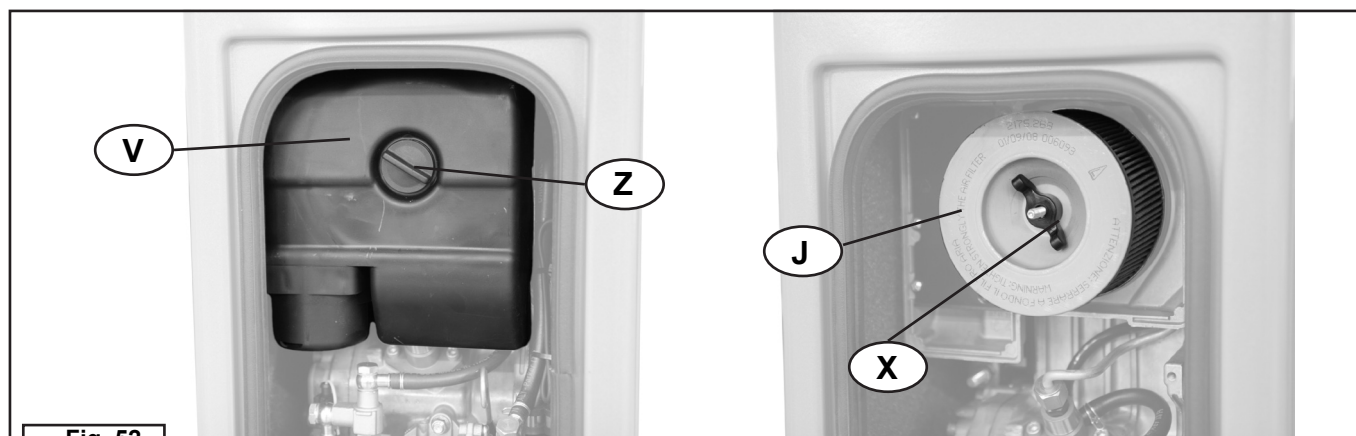

Fig. 52
20	Remove the air filter cover (V), by turning the knob anticlockwise (Z)(fig. 52).
21	Loosen and remove the wing nut (X) in order to remove the filter element (J) (fig. 52).